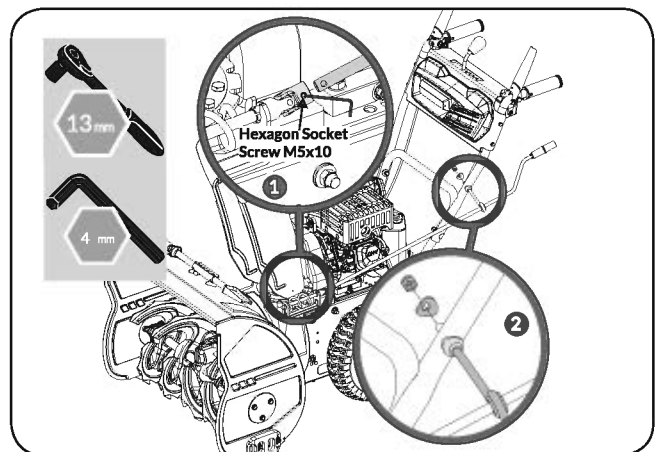

Figure 5a
- Loosen the hexagon socket screw M5x10 on the universal joint several circles, then insert the end of the directional chute control lever into the universal joint and tighten with allen wrench. (See **Figure 5a #1**)
- Align the side brace from Step 1 with the upper hole on the left handle, and slide the brace bolt through the hole (See **Figure 5a #2**). Secure to the handle with a curved washer and then finger tighten the nut to secure to the handle bar. (See **Figure 5a #2**)
- Be sure to tighten the nut on the side brace that secures the directional chute control bar to the handle bar. (See **Figure 5a #2**)